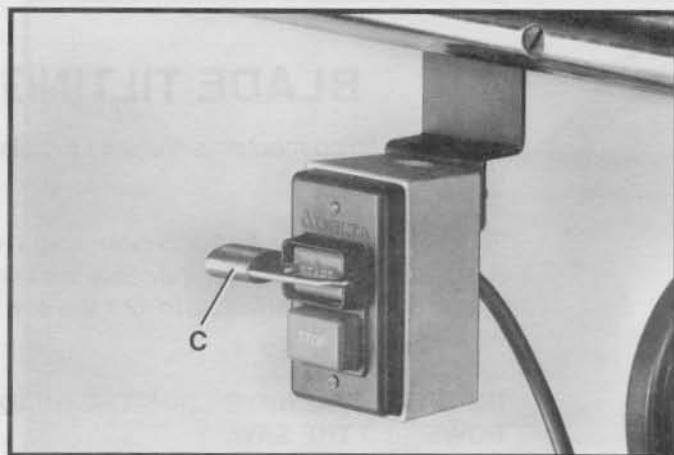

Fig. 44
IMPORTANT: We suggest that when the saw is not in use, the switch be locked in the "OFF" position using a padlock (C) Fig. 44, through the switch plate and start button as shown.